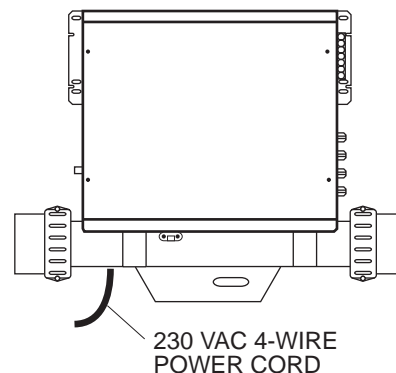

FIGURE 3
8. Replace electrical cabinet cover and tighten screws. Refer to Figure 3.